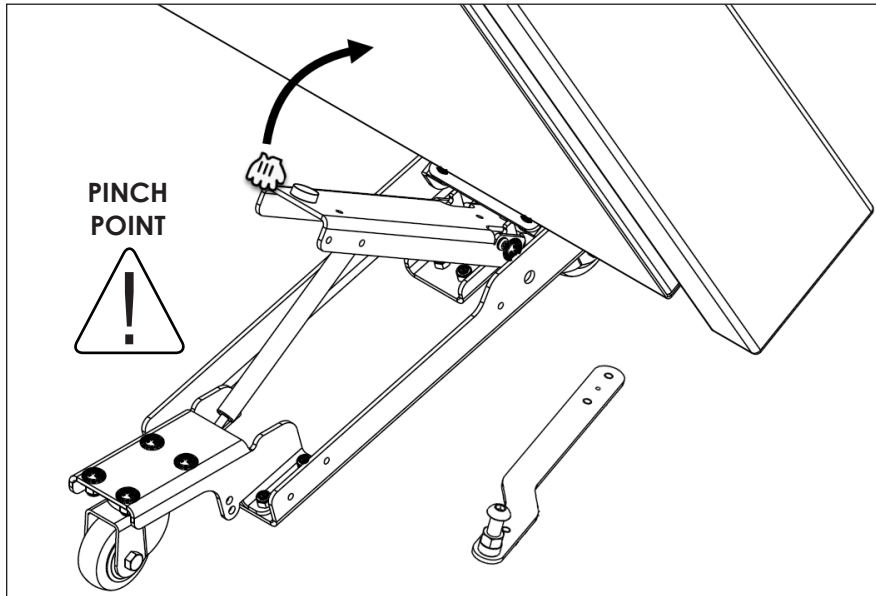

Figure 30: Raise Pivot Arm (Right Caster Base)
6. Move to the right side caster base pivot arm and repeat **Step 5** to fully lift the table off the floor. Refer to **Figure 30**.